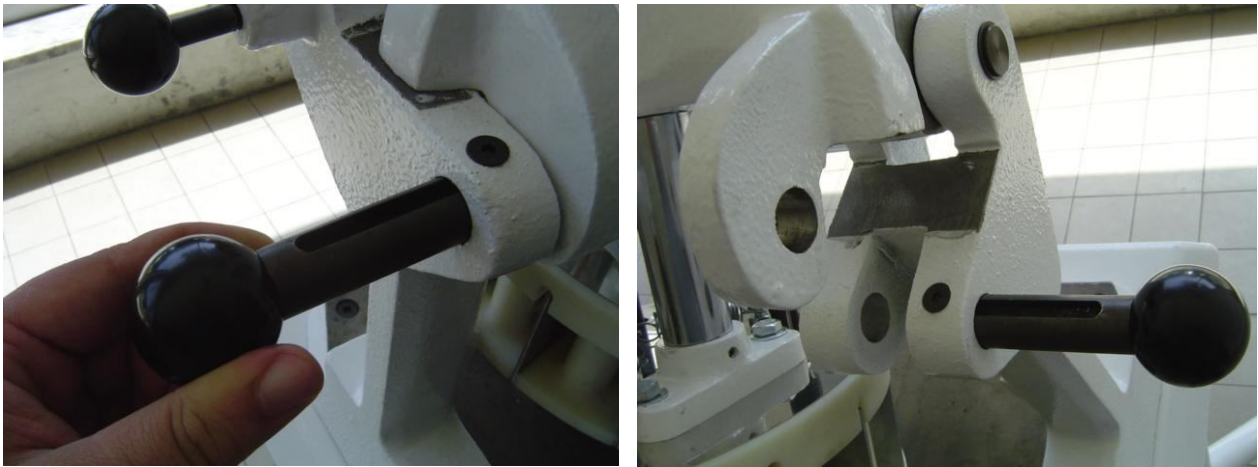

Figure 10
- Push the lateral left and right safety pins that fasten the columns to the machine's frame support (figure10)